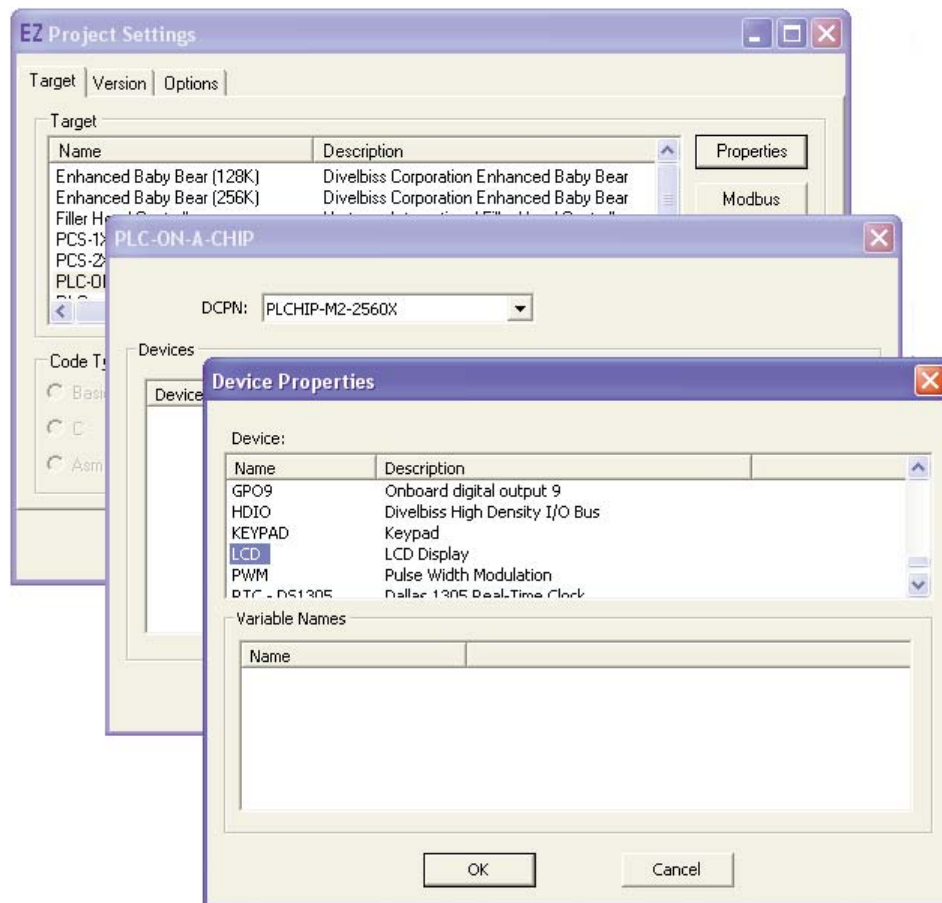

Figure 13.1
4. From the provided ADD dialog *Devices* list, select the LCD. See Figure 13.1.